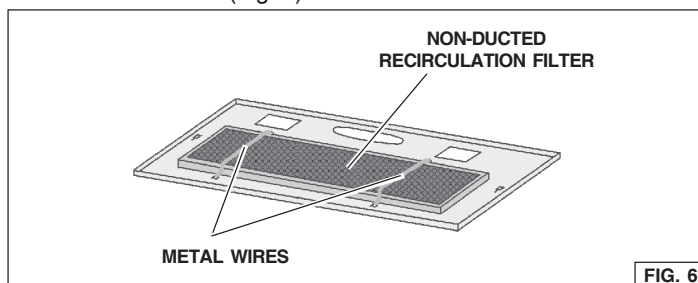

FIG. 6
2. Install the Non-ducted recirculation filter over the grease filter and secure it with the metal wires supplied with the Non-ducted recirculation Filter (Fig. 6).
2. Remove the metal wires (Fig. 6) and replace the Non-ducted recirculation Filter.